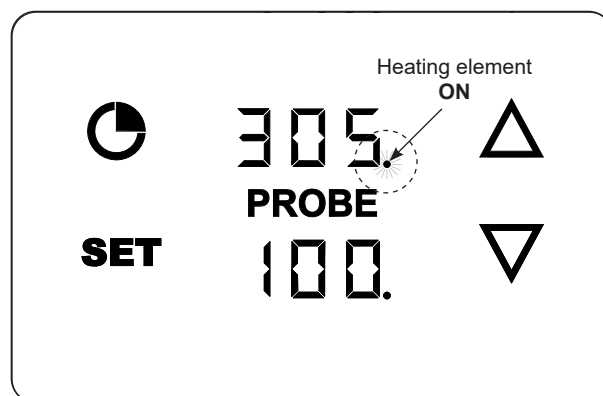

Fig. 34-2 Heating element ON
- The **dot** next to the grilling temp. indicates that the heating element is **on**. The **dot** turns on and off intermittently as the element maintains the set temp. See Fig. 34-2.